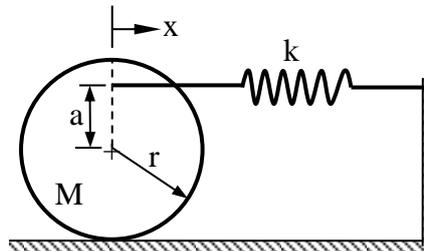

Fig. Q1(A)
- 1A Find the natural frequency of small amplitude oscillations of the system shown in Fig Q1(A) by ENERGY METHOD, when the cylindrical disk of mass 'M' rolls without slipping on the horizontal surface. 04